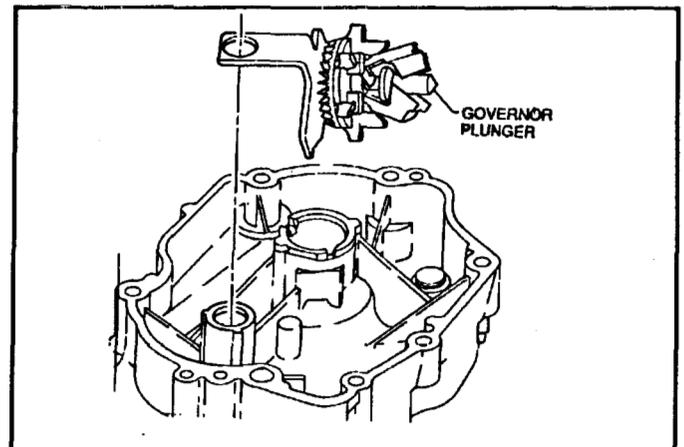

Figure 82
1. Install the governor as shown in Figure 82. Make sure the governor plunger is positioned against the governor arm and that the flyweights are free to move.